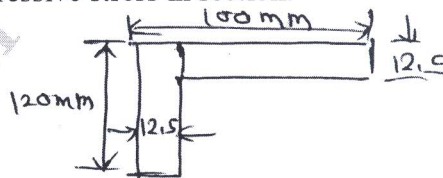

Fig.Q.6(b)
- b. An unequal angle section shown in Fig.Q.6(b) is used as simply supported beam with span of 2m and uniformly distributed load of  $10\text{kN/m}$  inclusively of its own weight determine the maximum tensile and compressive stress in section. (10 Marks)